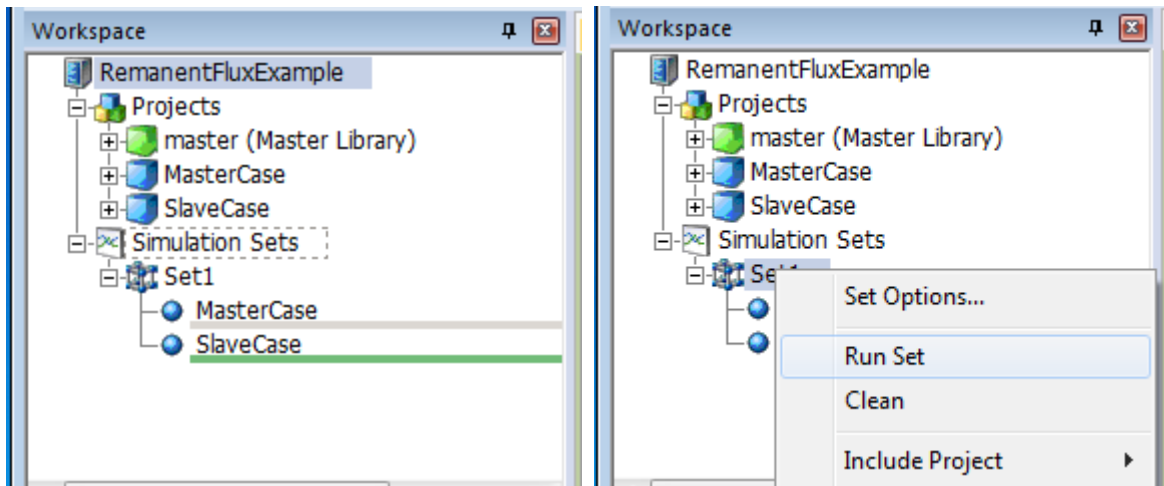

Figure 2: Run the simulation set
- Right-click on the Simulation Sets to run the simulation set “Set1” as shown in Figure 2: